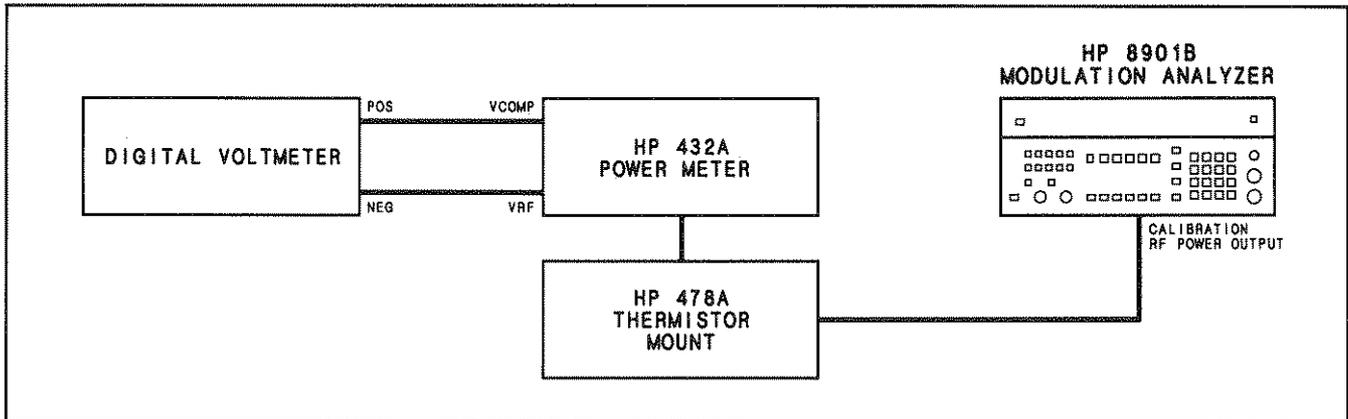

Figure 4-6. Power Reference Performance Test Setup
2. Connect the equipment as shown in Figure 4-6. The input of the digital voltmeter should be floating. The positive input of the voltmeter should be connected to the rear-panel VCOMP